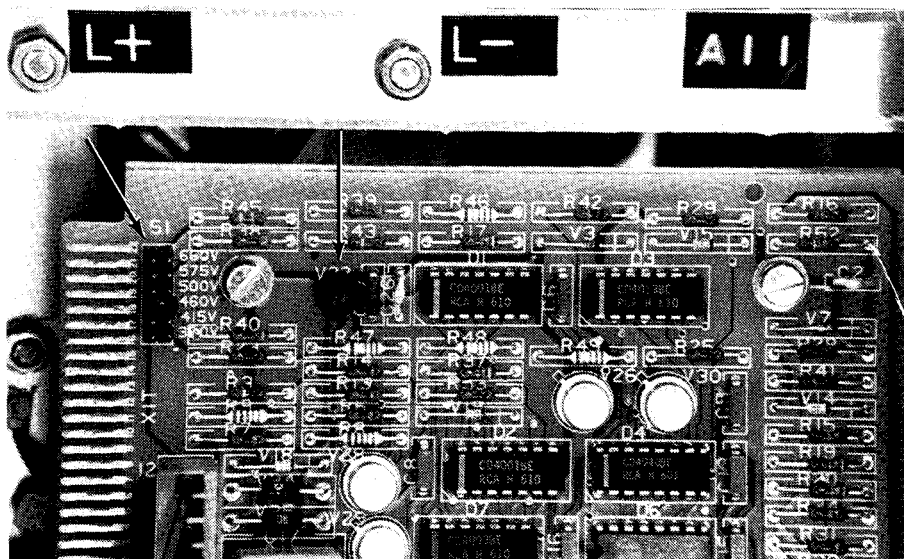

Figure 4-14. Chopper Control Card Selector S1
- 4-5.1.3 Supply Voltage Adjustment** - The supply voltage selector located on the Dynamic Braking Unit Chopper Control Card must be set to the correct voltage rating before operating the Dynamic Braking Unit. The selector jumper (S1, Figure 4-14) should be moved to the location (460V, 575V etc.) corresponding to the supply voltage rating of the drive. Verify the supply voltage rating by consulting the drive nameplate located near the supply connectors inside the cabinet.